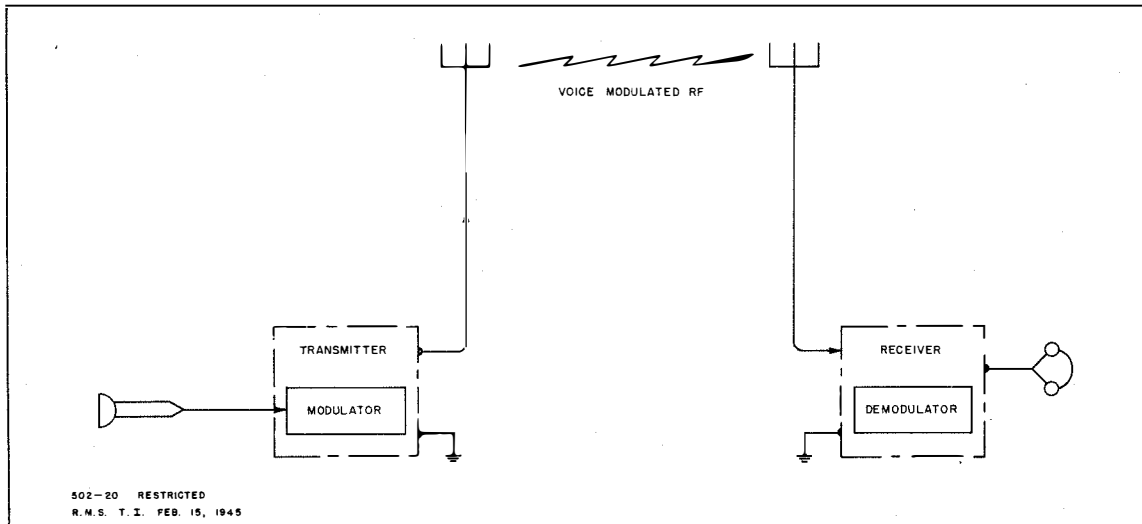

Fig. 20 Basic system of communication by voice modulated RF.
2. **GENERAL CONDITIONS:** Voice modulation is indicated in Fig. 20, but the modulation also may be code, music or picture impulses.